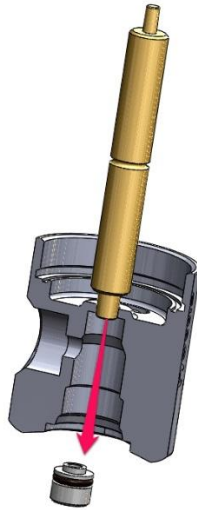

Fig. 22
28. Insert the larger diameter post of the seat tool 40.6536.2 into the low-pressure side of the body 7276.8 and push out the HP seat 6493 (Fig. 22). Remove O-ring V2.010 from HP Seat 6493 and discard.